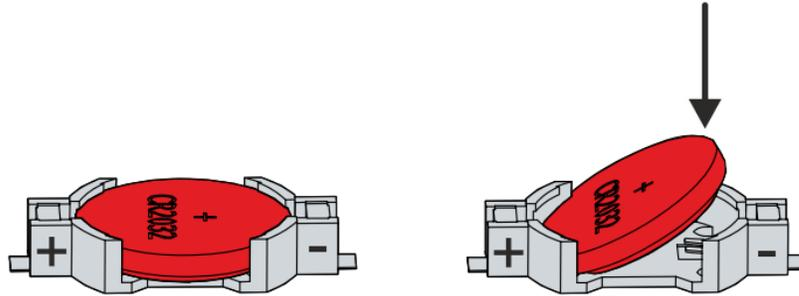

Figure 24. PLC Battery Change
3. Lift the battery side out of the holder. The battery is now in an inclined position as shown in **Figure 24**.
5. Insert the new battery with the correct polarity back into the inclined position on the positive pole of the battery holder. The correct polarity is shown in **Figure 24**.
6. Push the protruding side of the battery into the battery holder as shown in **Figure 24**.